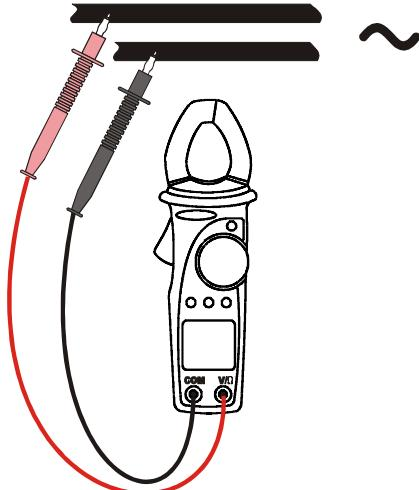

Fig. 6: frequency measurement with test leads
4. Connect the test leads to the circuit under test (see Fig. 6). The measured frequency value is displayed.
3. Connect the test leads to the circuit under test (see Fig. 6). The instrument displays the Total Harmonic Distortion value of the input signal. The symbol “**THD%**” is shown on the display. See chapter 8 for the parameter’s definition.